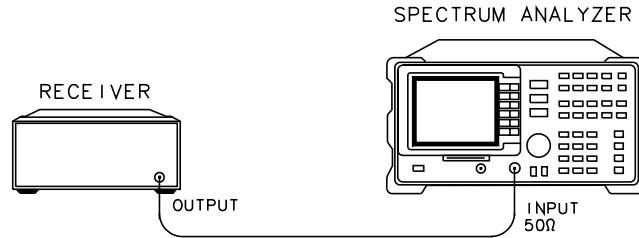

Figure 26 Test Setup for Receiver Spurious Emissions
- 2 Press **Rcvr Spurious**. Refer to Figure 26 on page 71 for the test setup.